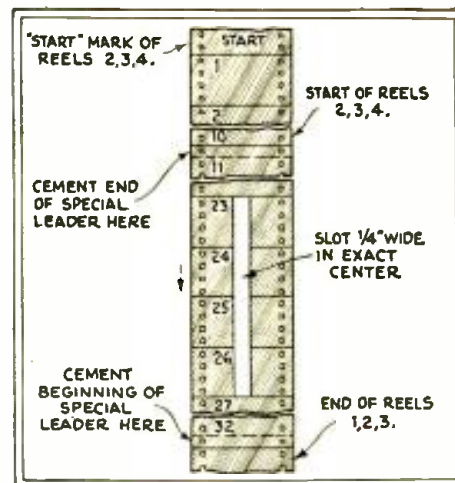
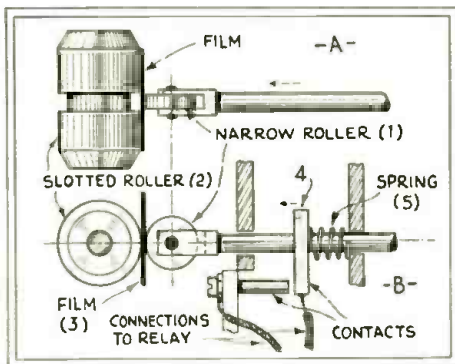

Fig. 1
Fig. 2
For the sake of clarity, it may be well to outline briefly at this point the operation of the double turntable. Short strips of slotted "leader" (length of blank film) are cemented between the four 1000-foot lengths of film (See Fig. 1) and, as these slotted portions pass over a specially constructed roller in the projector, (diagrammed in Fig. 2) an electric circuit is closed through a magnetic-clutch mechanism (Shown at 1, Fig. B.). The actuation of the clutch immediately causes the incoming turntable to start up in exact synchronism with each succeeding 1,000-foot length of film. The electrical circuit by which this is accomplished is shown in Fig. 3. As soon as the changeover has been completed, the outgoing turntable is then manually disengaged from its driving source and allowed to stop in order to change the record and place the pickup needle at the "starting point" in readiness for the next changeover.
When the end of the first 1,000-foot length of film has been reached, the slotted leader passes between the rollers shown in detail in Fig. 2. The narrow roller (1) projects through the slotted portion of the film (3) during its passage, thus bringing together the two contacts shown in the picture and closing a primary circuit through a relay. The operation of the relay causes the clutch magnet to be momentarily energized which trips the armature; thus allowing the clutch shaft to spring back and cause the incoming turntable to start. Since the slotted strips of film are cemented in a given relation to the "start frames," the incoming turntable will commence revolving at the same instant that this frame is passing through the picture gate. Accurate synchronization between the disc and film is thus assured.
A view of the film-rollers between which contact is effected, as shown in diagram form above in Fig. 2 (The figures in the two diagrams correspond). At the left will be seen the central slot, in the vertical film, by which the mechanism shown in Figs. B and 3 is started.